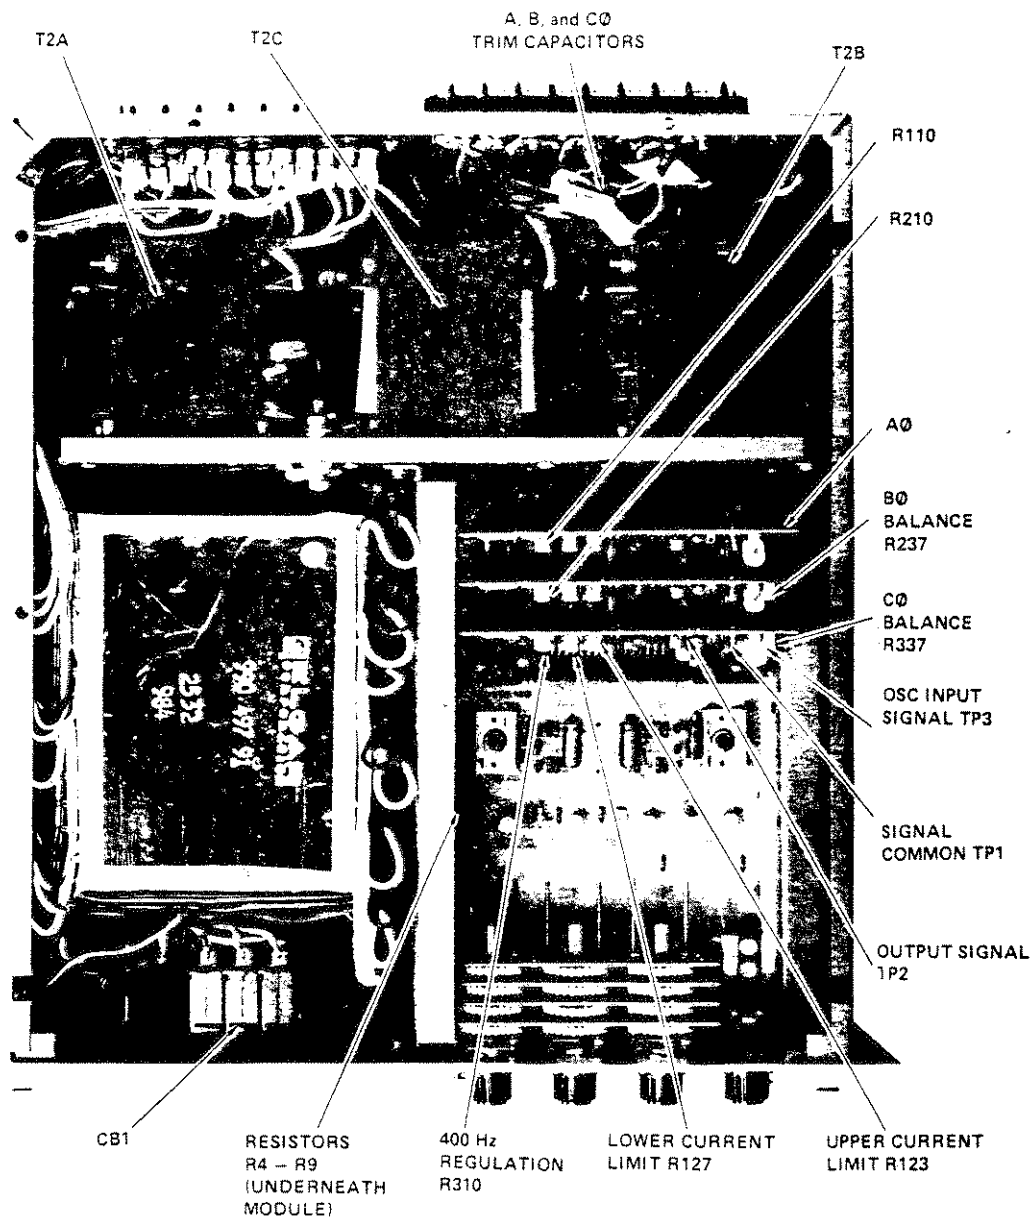

Figure 5-2. Model 1753B Top View
angle control is used to set A-B voltage and the C-phase angle control to set the A-C voltage. To check the output and amplitude balance and adjust as needed (see Figure 5-2), proceed as follows:
7. To remove clipping from upper peak of sine wave, adjust the upper current limit potentiometer R123 (see Figure 5-2) CCW only as much as necessary to remove clipping. Further adjustment CCW will permit the output transistors to deliver an unsafe amount of current.